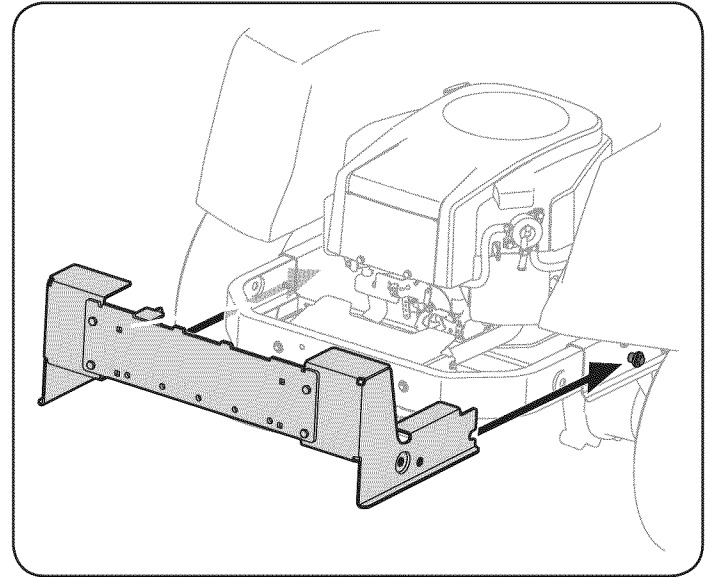

Figure 2
1. Slide the mounting bracket assembly along the frame rails of the tractor until the hooks in the mounting brackets align under the shoulder bolts on your tractor, as seen in Figure 2.